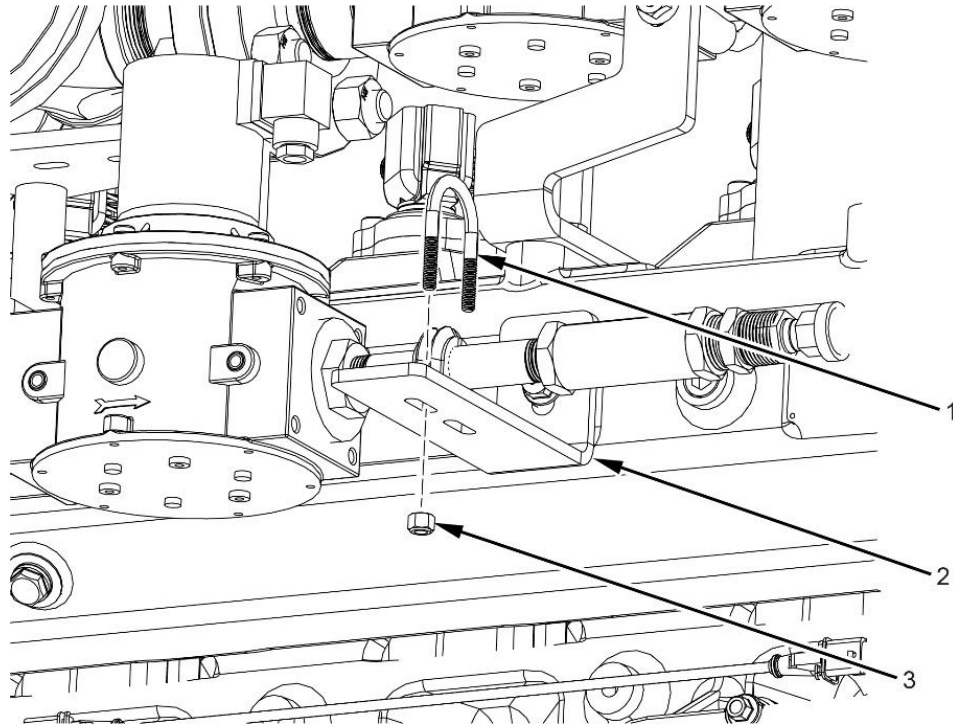

Figure 30. Fast Start Lockoff Assembly
7. Remove two nuts (Figure 30, Item 3) from U-bolt (Figure 30, Item 1), remove U-bolt from bracket (Figure 30, Item 2).
5. Install U-bolt (Figure 30, Item 4) to bracket (Figure 30, Item 4). Apply PSI approved Loctite to the nuts (Figure 30, Item 4) and install to U-bolt.